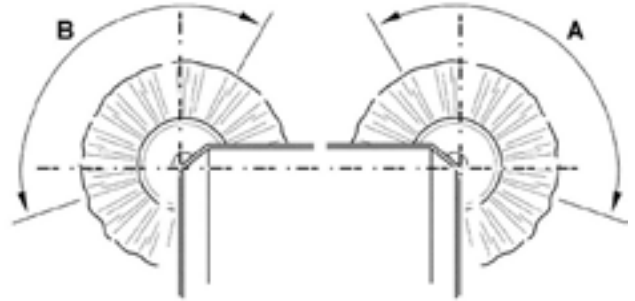

Figure6
- Check that the side brush prints are as shown in the figure (A and B, Fig. 6).